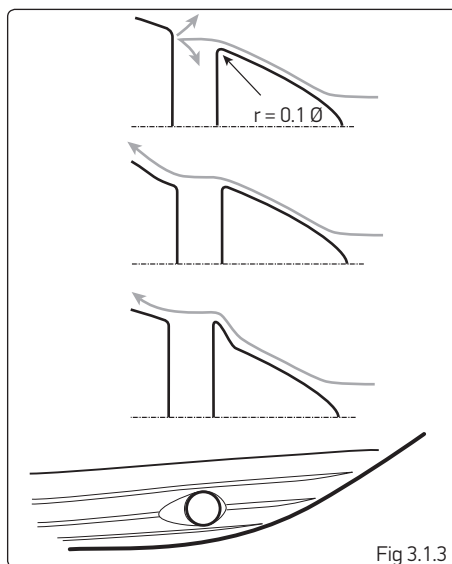

Fig 3.1.3
- ▶ Fig 3.1.3 - To reduce any potential loss of performance or damage to the propeller the entrance of the tunnel can be altered to improve thrust as well as reduce noise.